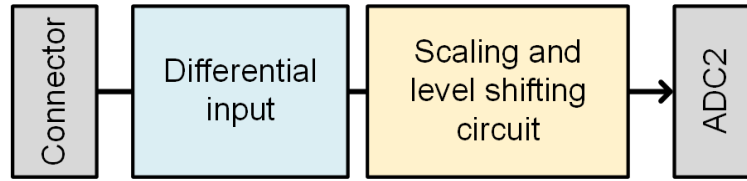

Figure 6. ADC2 measurement chain.
ADC2 interface is similar to the previously depicted ADC1, except for the low-pass filtering path that is avoided to have full bandwidth. Signal conditioning chain is highlighted in Figure 6. Input circuit devoted to scaling and level shifting exhibits the same gain as shown in (1). Each analog input is configured as differential. Moreover, all channels can be configured independently for unipolar or bipolar input. Detailed information are available in Table 4.